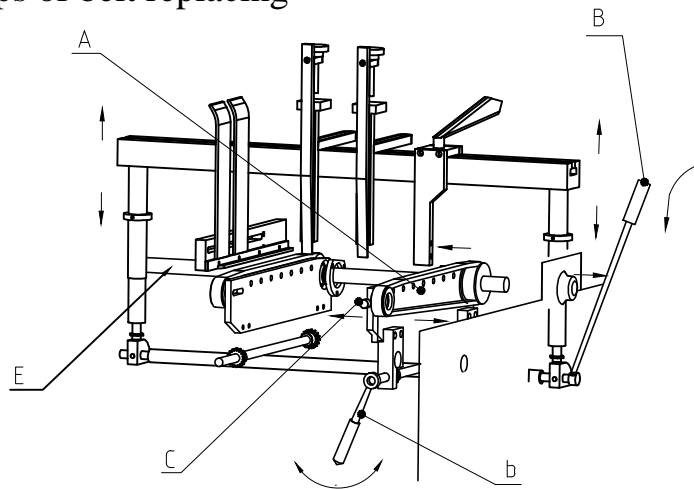

Fig 1-1
- ① Press down the jiggle bar (B) to raise subassemblies of paper feeding unit, separate the paper feeding base by jiggle bar b, see Fig.1-1.